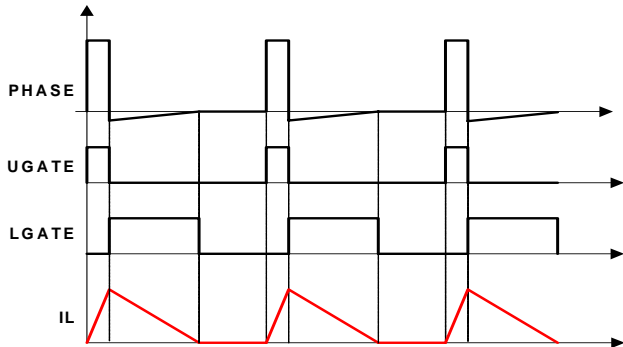

FIGURE 8. DIODE EMULATION
ISL62882C can operate in diode emulation (DE) mode to improve light load efficiency. In DE mode, the low-side MOSFET conducts when the current is flowing from source to drain and does not allow reverse current, emulating a diode. As Figure 8 shows, when LGATE is on, the low-side MOSFET carries current, creating negative voltage on the phase node due to the voltage drop across the ON-resistance. The ISL62882C monitors the current through monitoring the phase node voltage. It turns off LGATE when the phase node voltage reaches zero to prevent the inductor current from reversing the direction and creating unnecessary power loss.
If the load current is light enough, as Figure 8 shows, the inductor current will reach and stay at zero before the next phase node pulse, and the regulator is in discontinuous conduction mode (DCM). If the load current is heavy enough, the inductor current will never